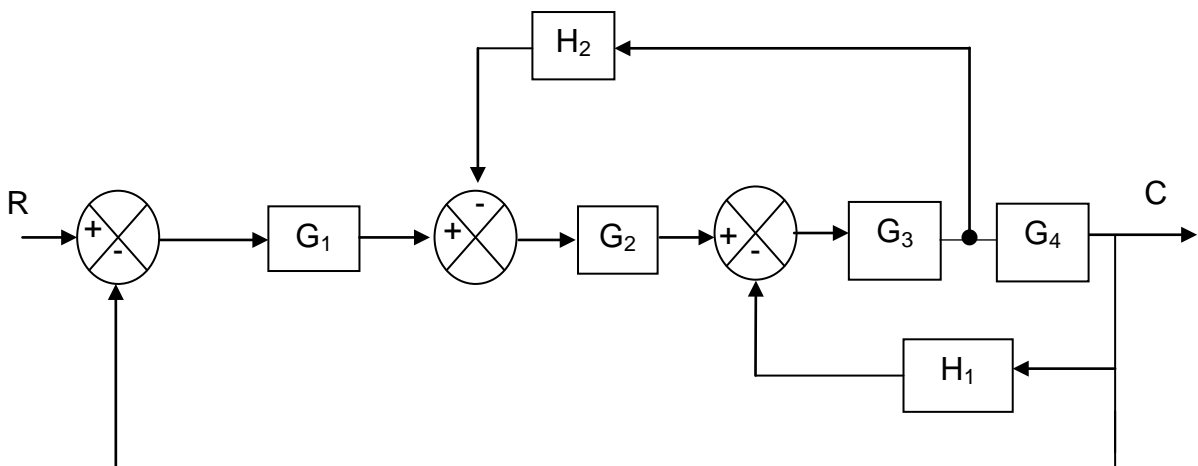

Fig. 2
**Q.3** a. Determine the overall transfer function for the system shown in fig.2. (8)